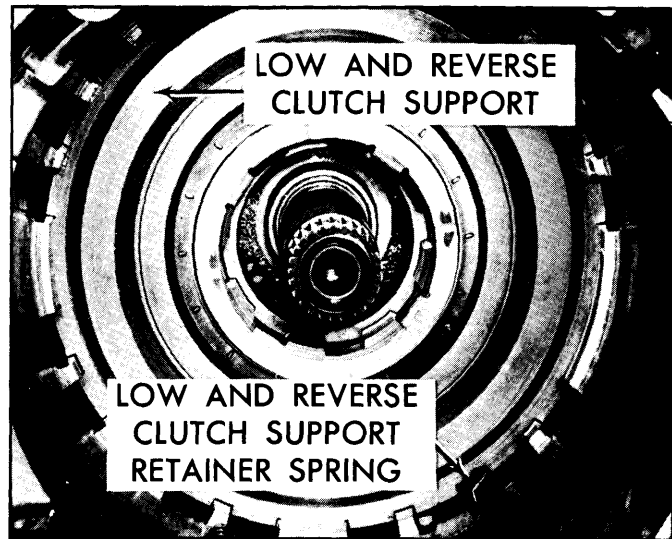

Fig. 7-96—Installing Low and Reverse Clutch Support Assembly
9. Install low and reverse clutch support assembly with position of notch with low and reverse clutch support retainer (anti-clunk) spring as shown in Fig. 7-96.